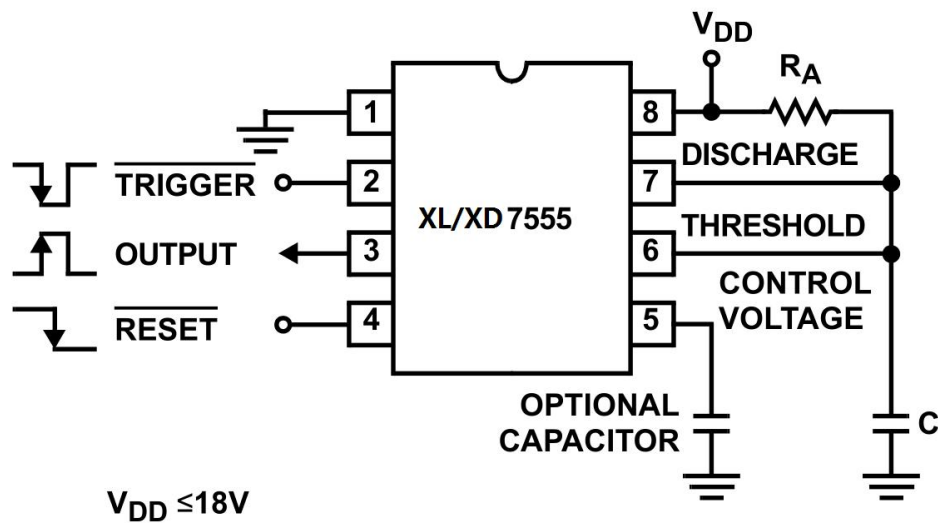

FIGURE 6. MONOSTABLE OPERATION
In this mode of operation, the timer functions as a one-shot (see Figure 6). Initially the external capacitor (C) is held discharged by a transistor inside the timer. Upon application of a negative Trigger pulse to pin 2, the internal flip-flop is set, which releases the short-circuit across the external capacitor and drives the Output high. The voltage across the capacitor now increases exponentially with a time constant $t = RAC$. When the voltage across the capacitor equals $2/3 V+$, the comparator resets the flip-flop, which in turn discharges the capacitor rapidly and also drives the OUTPUT to its low state. Trigger must return to a high state before the OUTPUT can return to a low state.